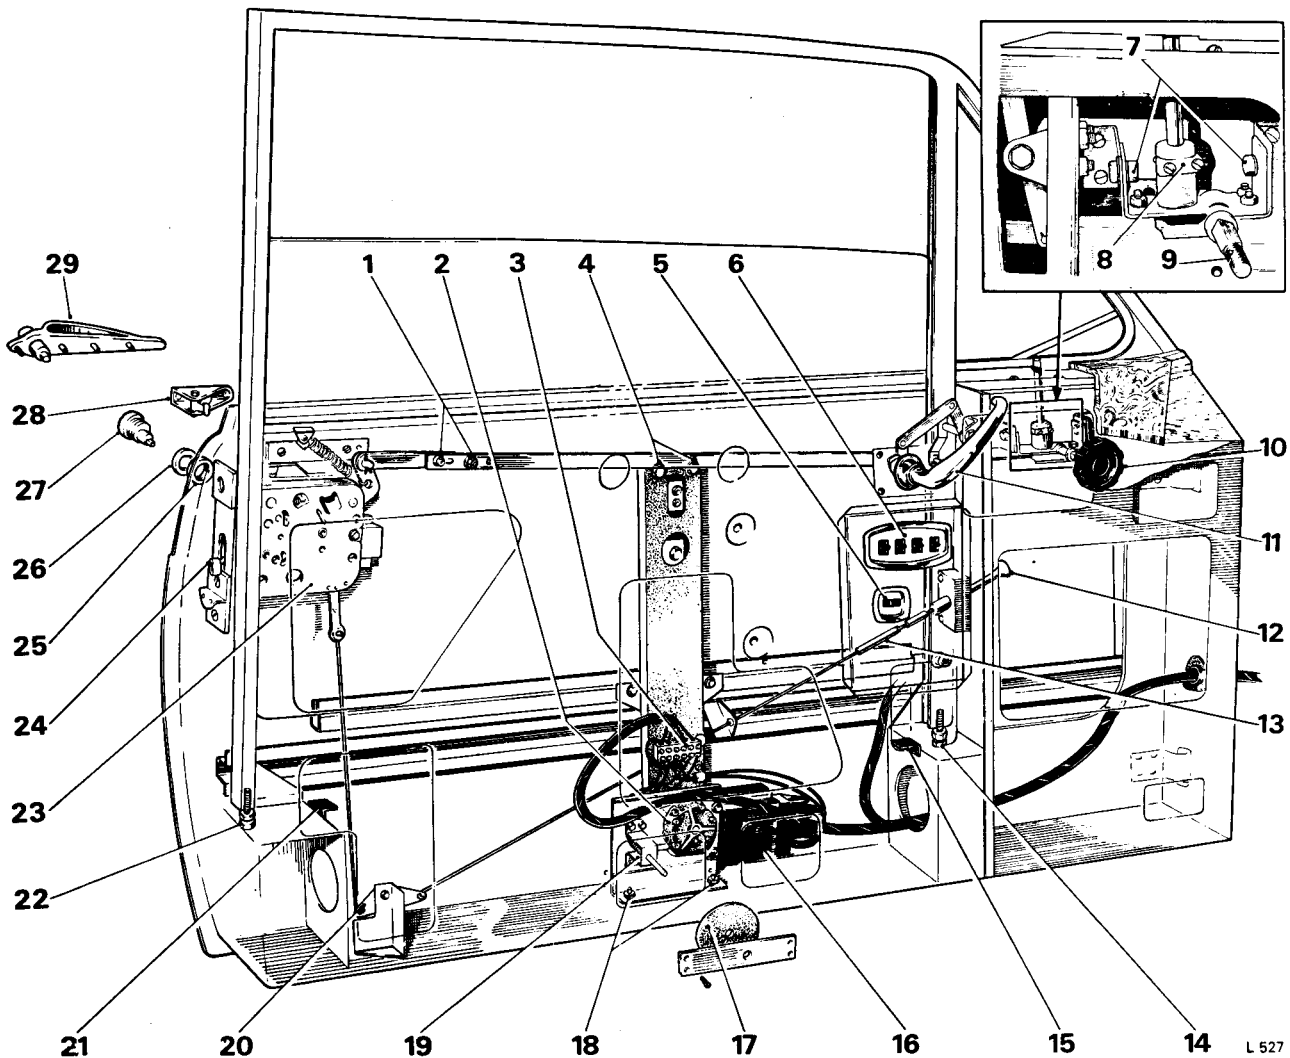

FIG. S9 TYPICAL CONSTRUCTION OF A DOOR (2-Door Saloon Cars prior to Car Serial Number 5001)
- (b) **Coachbuilt cars.** Remove the two bolts securing the chain channel to the top of the door (see Fig. S9).
6. Remove the two nuts located at the window feet (*see Fig. S9, item 22*).
Coachbuilt cars (see Fig. S9)
2. Remove the two setscrews securing the cross-plate to the quarter window drive-shaft (see Fig. S9 item 8).
4. Remove the two bolts securing the quarter window mechanism to its mounting brackets (see Fig. S9, item 7); remove the mechanism.